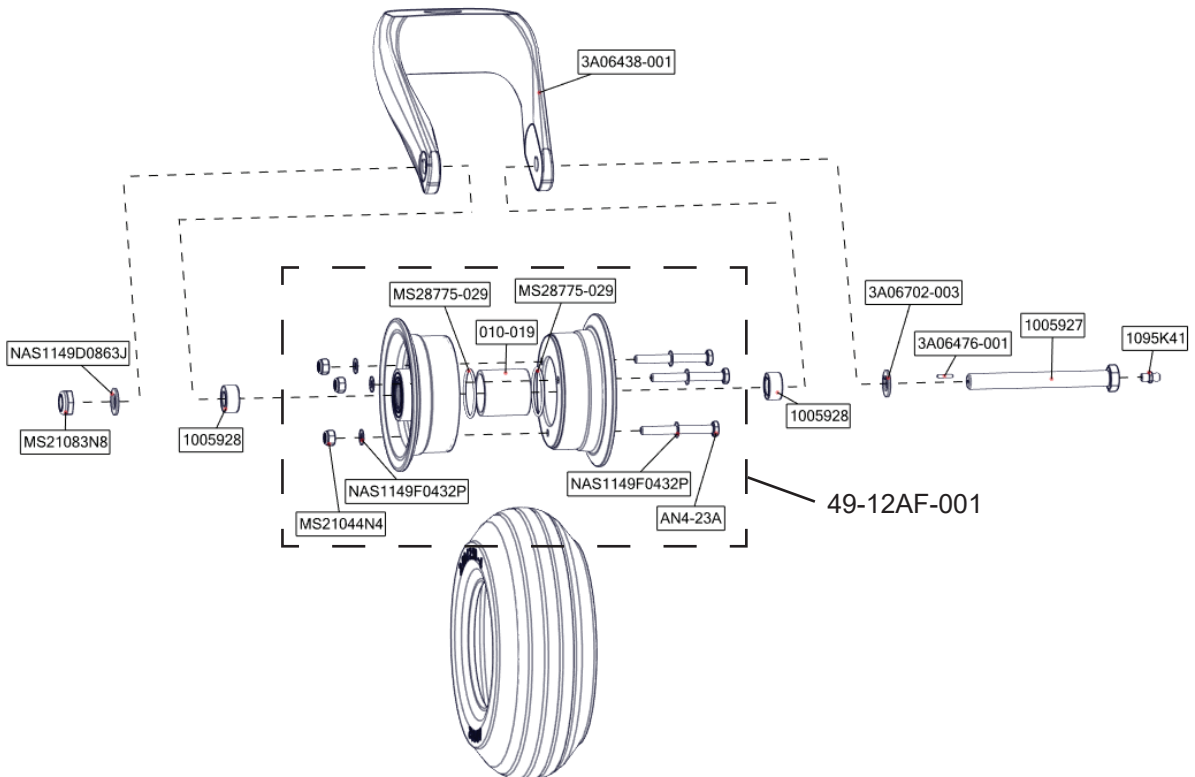

FIGURE 4: 3000, 3730, 3450, 4000 GROVE ASSEMBLY
- Figure 4: 3000, 3730, 3450, 4000 Grove Assembly